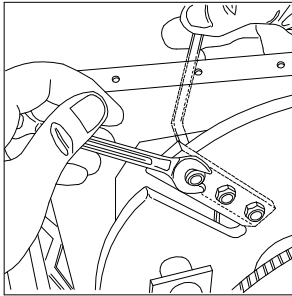

Fig. 17
- Insert the key in the two apertures (Fig. 17) and remove the blade.